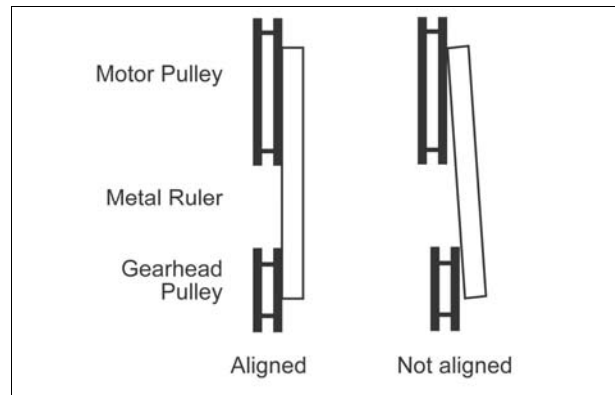

Figure 11
1. Place the edge of a metal ruler so it rests perpendicular against the flat sides of the motor and cutterhead pulleys (Fig. 11).
If the pulleys lie in straight plane (Fig. 11) they are aligned.
3. Adjust the motor until the pulleys are in the aligned position as shown in Figure 11.